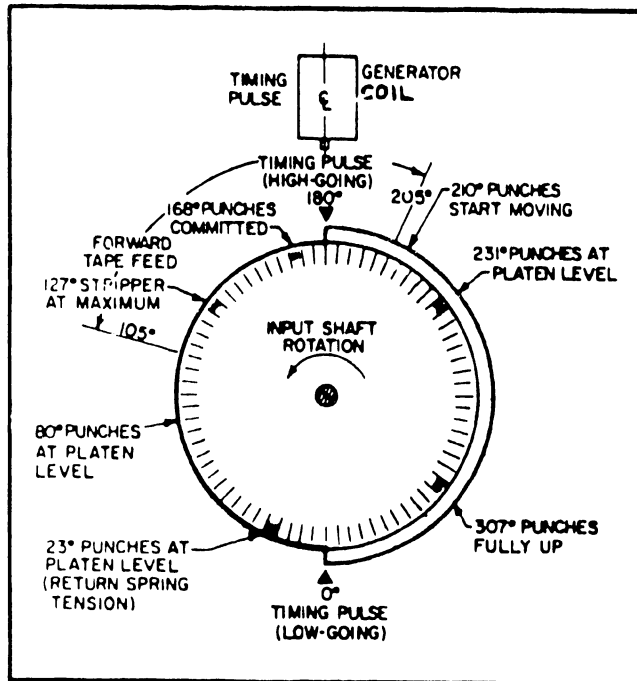
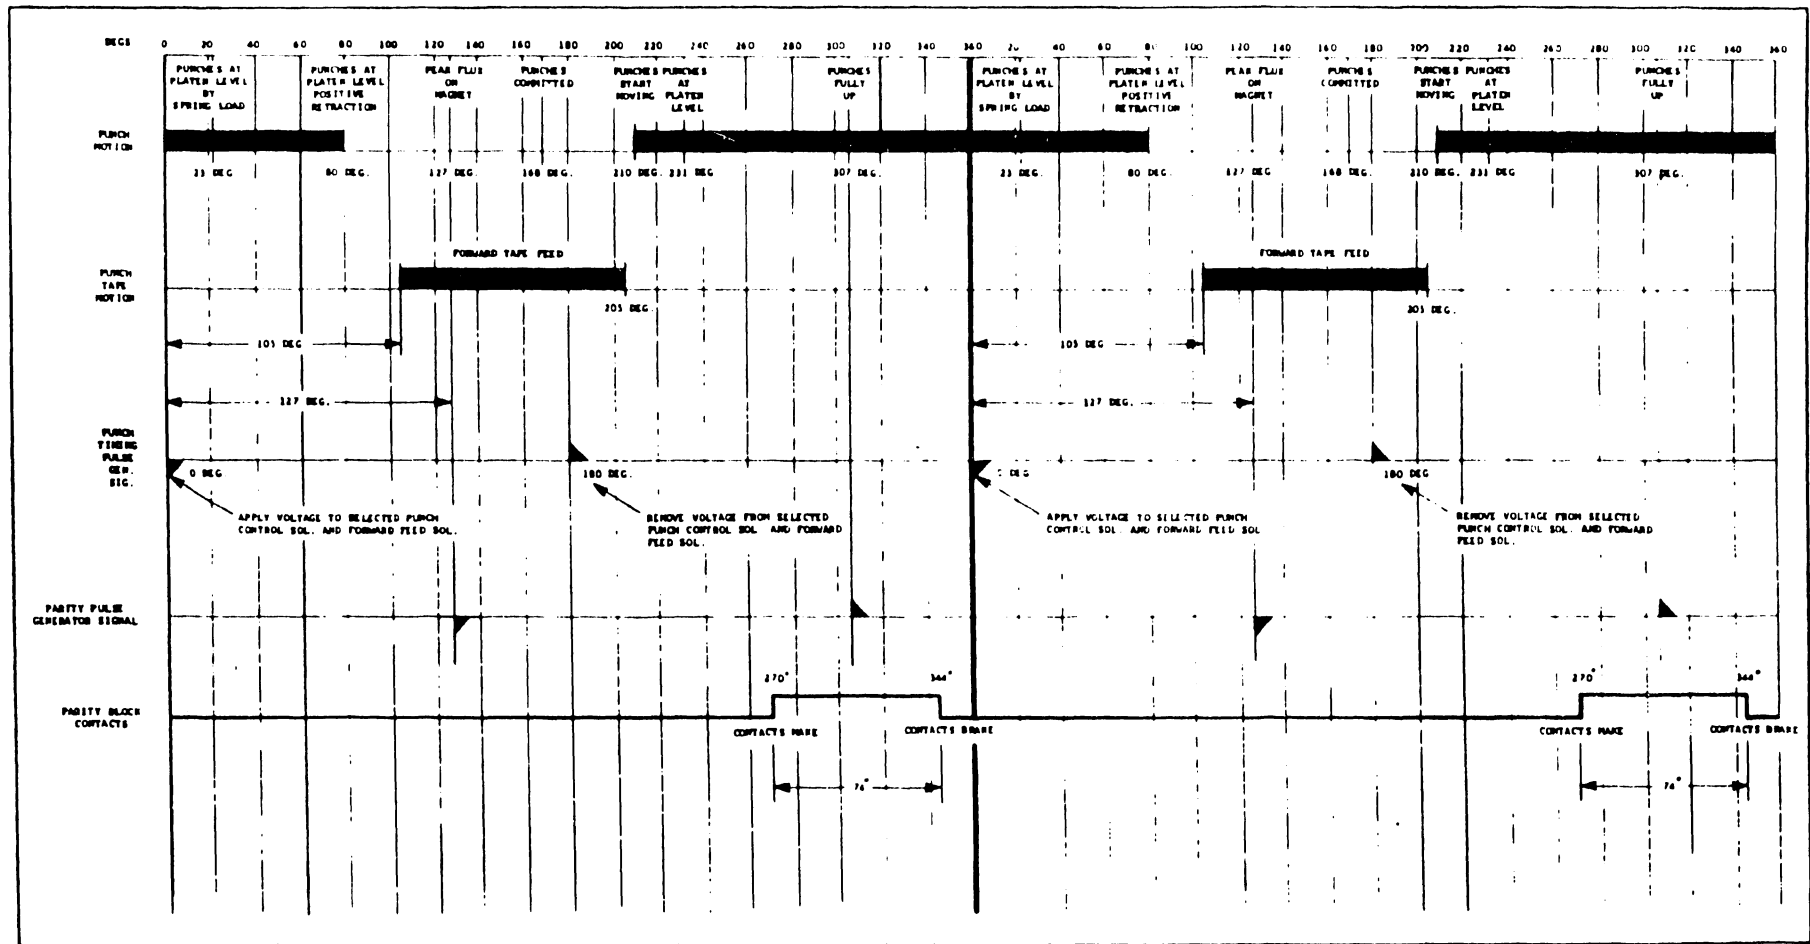

Figure 3.1 Timing Chart, Punch
Figure 3.2 Mechanical Timing Diagram, Punch
chart of Figure 3.1 and timing diagram of Figure 3.2, a punch should reach and be level with the upper surface of the lower die plate at 231 degrees upstroke and 23 degrees downstroke. Punch travel from this point, which is the same as that of the top surface of the platen, into the upper die plate and back should encompass 152 degrees of input shaft rotation. Therefore, after 76 degrees, a punch should be at its maximum height, and the timing dial should indicate 307 degrees. The following equation shows a correct timing disc setting:
6. Repeat step 1 through 3. Points of actual measurement should coincide with those in Figures 3.1 and 3.2 if the adjustment was made correctly.